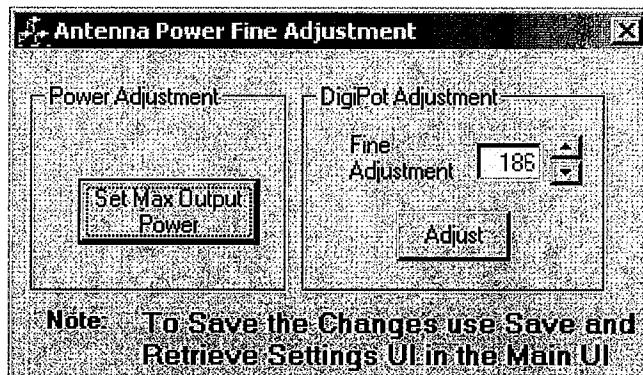

Figure 14
- 9.8.5 Press the “F9” key then select “Antenna Power Fine Adjustment” from under the Tools Menu. You will be prompted to enter a password. Enter the following “EZReader” (case sensitive) then click “OK”. You should now have the “Antenna Power Fine Adjustment” screen shown in Figure 14.